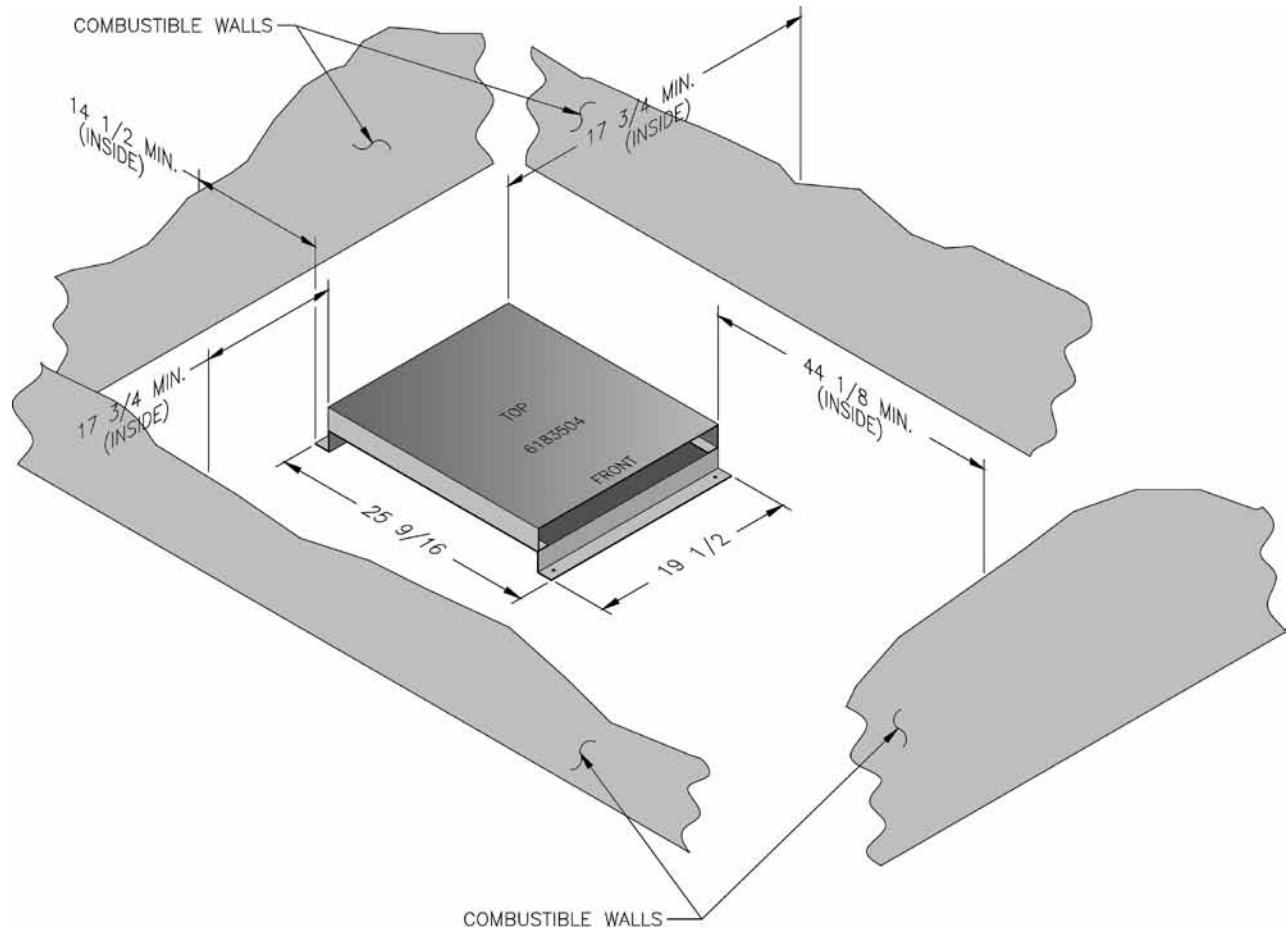

Figure 3: Floor Shield
- 2) Locate shield such that clearances to combustible walls are as indicated in Figure 3. These dimensions will assure that the boiler jacket will be at least 18" from the side and rear walls and 48" from the front wall, as required by ANSI/NFPA 31.